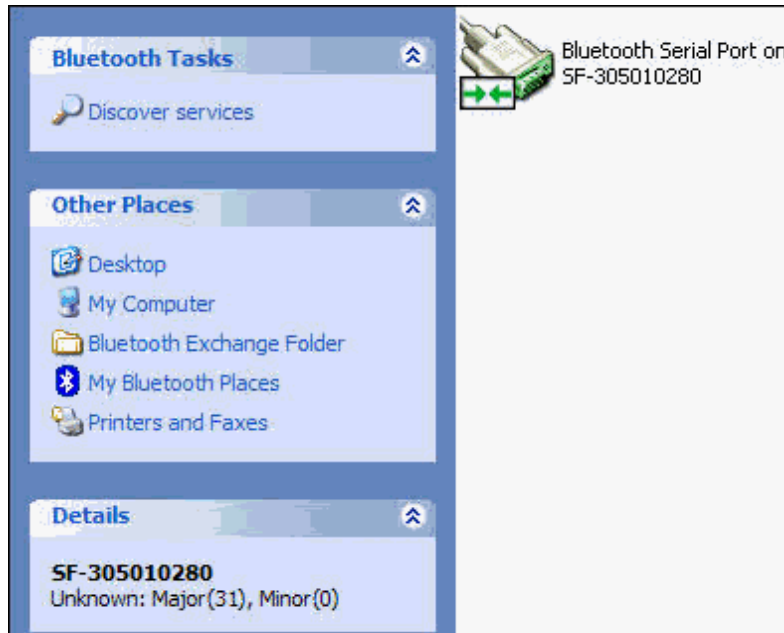
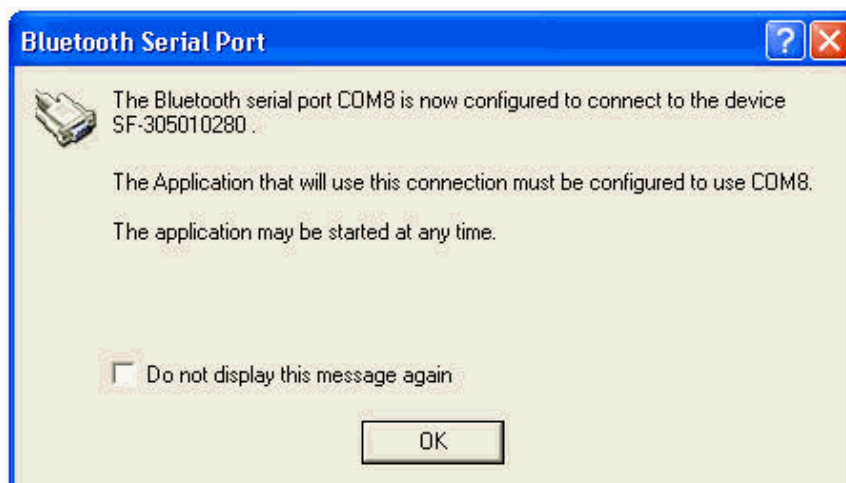

Figure 44: Bluetooth Virtual COM Port Connection Established
Figure 45: Bluetooth Virtual COM Port Connection Confirmed
7. Double-click the Bluetooth serial port icon. An icon with green arrows is displayed, indicating a connection is established between the Bluetooth Virtual COM port on the PC and the Bluetooth dongle (see Figure 44).
8. Double-click the Bluetooth Serial Port icon shown in Figure 44 to display the *Bluetooth Serial Port* dialog box, which confirms the configured COM port (see Figure 45).
14. Select the appropriate COM Port (for example, COM 8; refer to Figure 45 above).